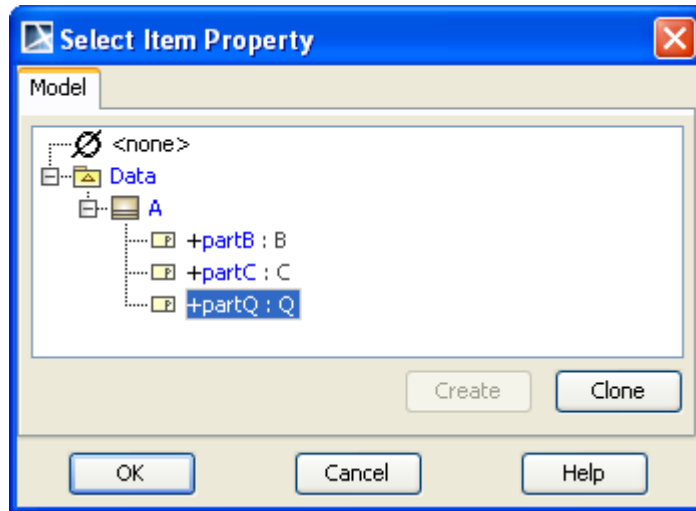

Figure 112 -- Select Item Property Dialog
8. Click the browse button ... next to the Item Property box. The Select Item Property dialog will open (Figure 112).